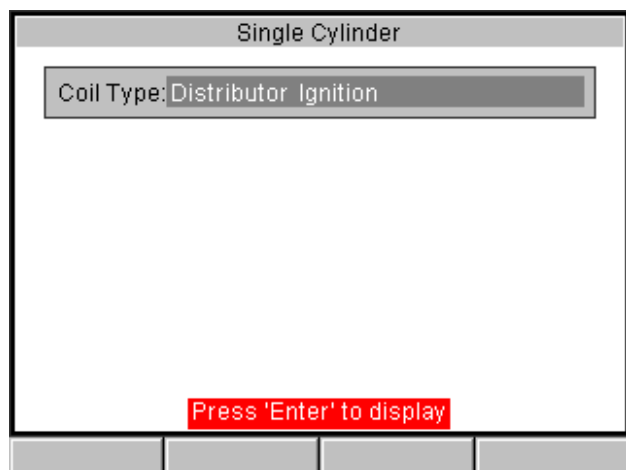

Figure 9.3: Ignition Single Cylinder Setup Screen
- 9 From the main menu screens, select **Scope** and then **Single Cylinder**. This displays the Single Cylinder setup screen (Figure 9.3).
- With the waveform panel selected, use the Panel function key, Edit option to change the ignition type. Refer to Figure 9.3 on page 98.